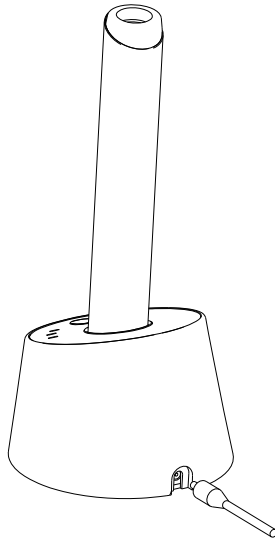

Figure 4
5. Plug the connector of the power supply into the back of the charging base as shown in Figure 4. Plug the other end of the power supply into the appropriate electrical outlet. As mentioned above, wait for at least 6 hours to completely charge the light before the first use.